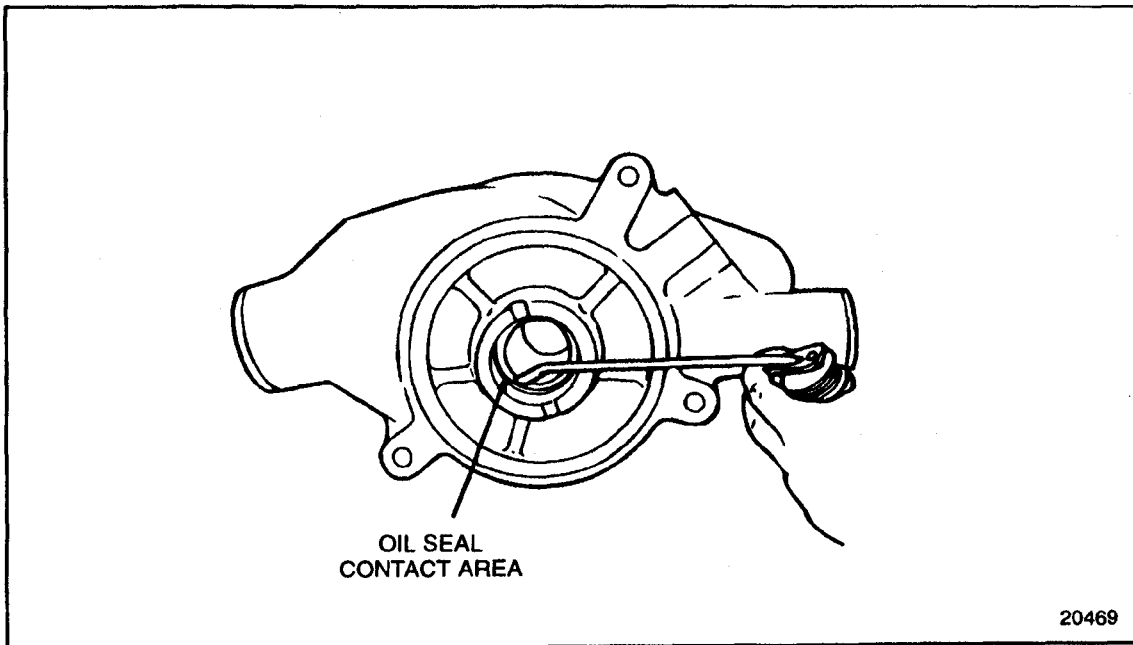

Figure 4-19 Oil Seal Contact Area Lubrication (GCM)
1. Coat the oil seal contact area of the water pump housing with a thin film of clean engine oil. See Figure 4-19.